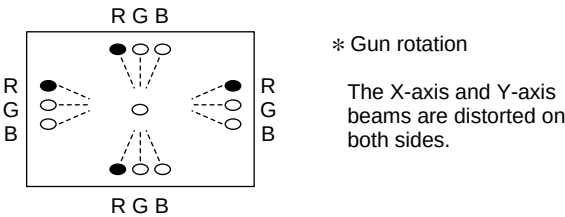

Fig. 2-19
3. The following patterns cannot be corrected by turning the neck. (Figs.2-19, 2-20, and 2-21)